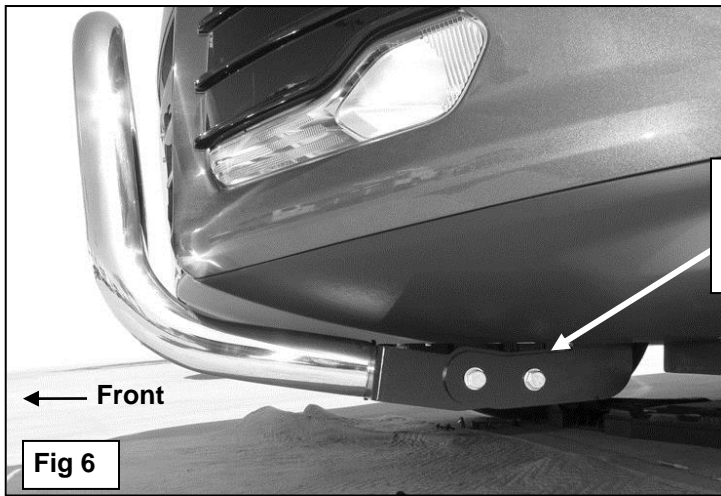

Fig 6
- Level and adjust the Bull Bar and tighten all hardware, **(Figure 6)**.